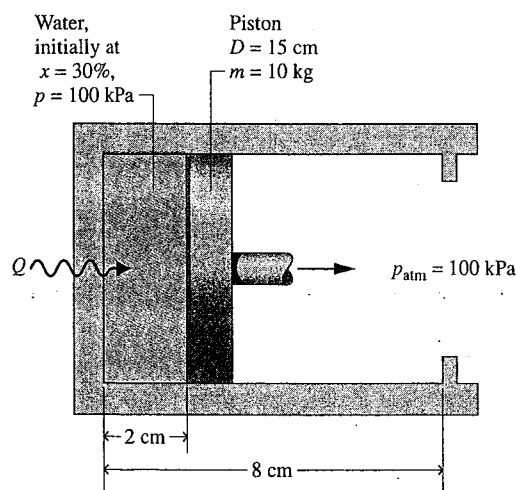

Fig. P3.76
3.76 A two-phase, liquid-vapor mixture of H₂O, initially at $x = 30\%$ and a pressure of 100 kPa, is contained in a piston-cylinder assembly, as shown in Fig P3.76. The mass of the piston is 10 kg, and its diameter is 15 cm. The pressure of the surroundings is 100 kPa. As the water is heated, the pressure inside the cylinder remains constant until the piston hits the stops. Heat transfer to the water continues at constant volume until the pressure is 150 kPa. Friction between the piston and the cylinder wall and kinetic and potential energy effects are negligible. For the overall process of the water, determine the work and heat transfer, each in kJ.